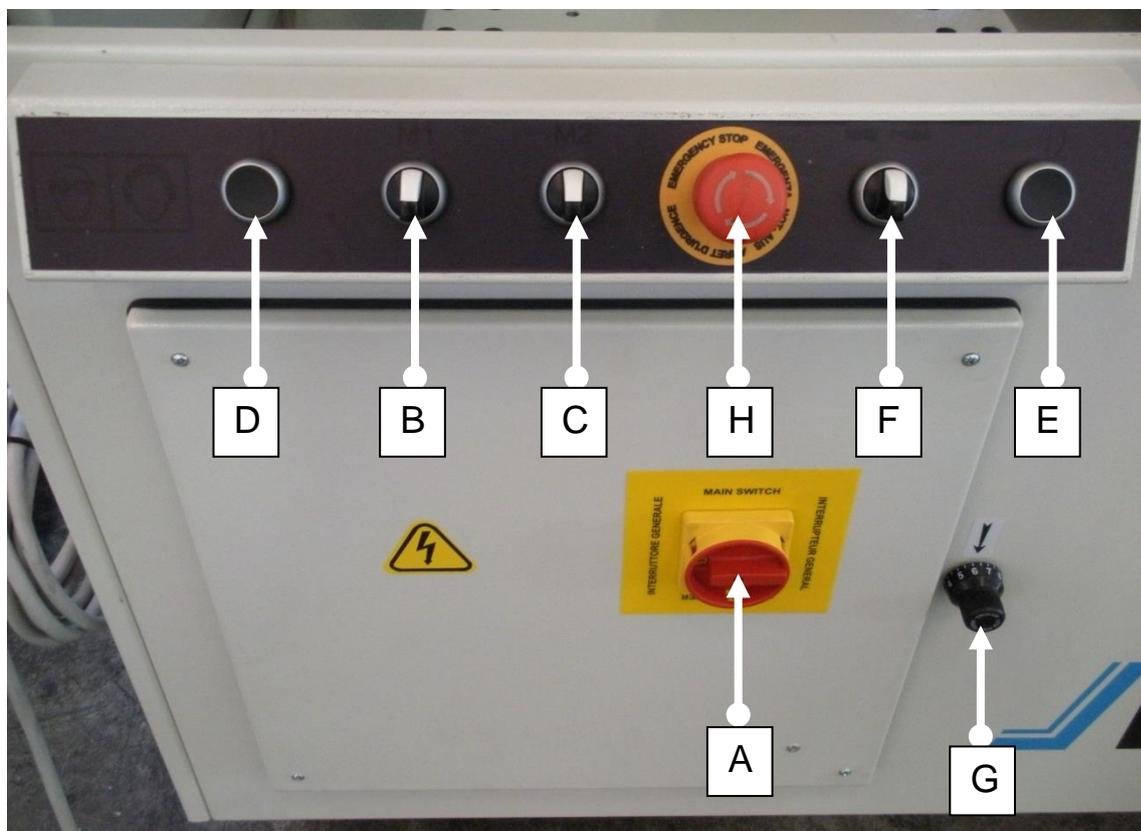

FIG.1B
- A (Fig. 1B) = Main Switch
- B (Fig. 1B) = Start Up Motor 1
- C (Fig. 1B) = Start Up Motor 2
- D (Fig. 1B) = Start for Saw Blades' feeding
- E (Fig. 1B) = Start for Saw Blades' feeding
- F (Fig. 1B) = Clamps' Selector
- G (Fig. 1B) = Speed Regulator for Saw blades' feeding
- H (Fig. 1B) = Emergency Button, turn it to release